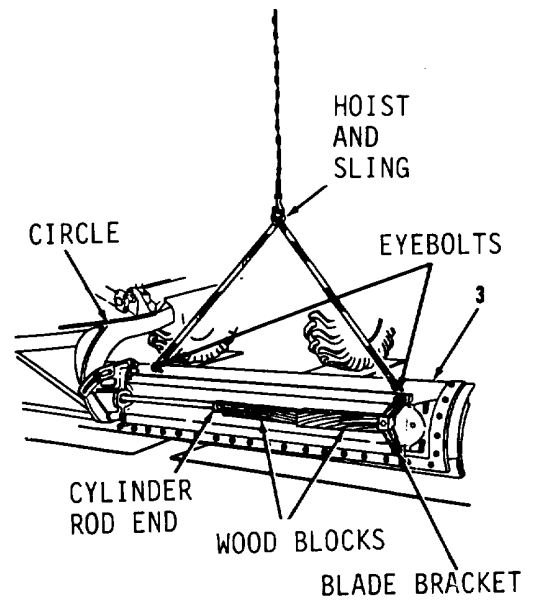

Figure 12-2.
5. Position wood blocks between blade bracket and cylinder rod end (Figure 12-2).
6. Operate blade sideshift control and expand cylinder rod to push blade assembly (3) away from circle until two eyebolts can be installed.
7. Install two eyebolts to blade assembly (3).